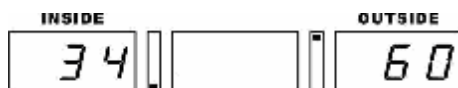

Fig 15
- I Press **FINE** key, the control panel will display the actual accurate imbalance value as shown in Fig 15.